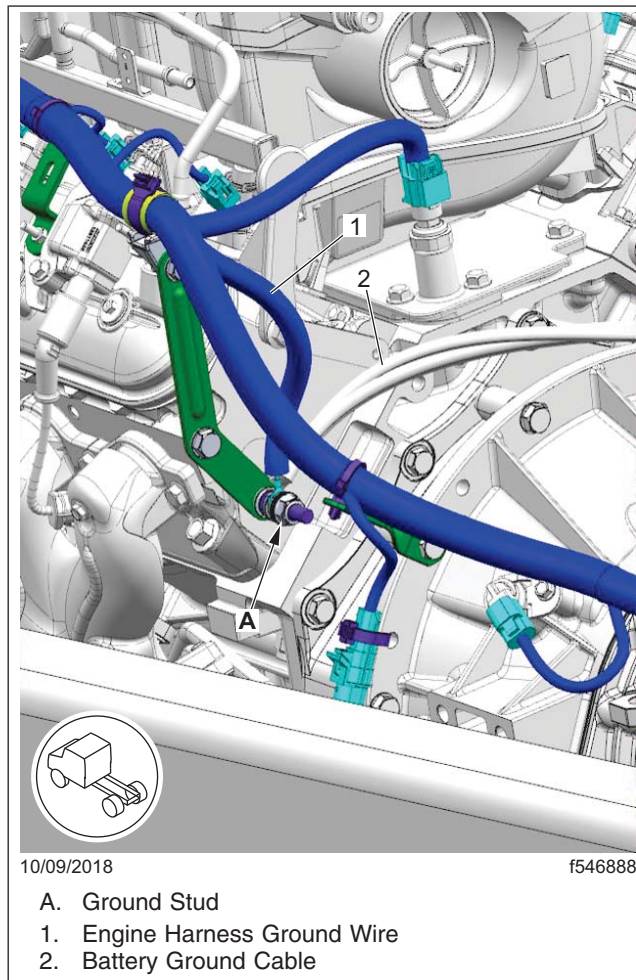

Fig. 5, Ground Cable Stud
14. Using two wrenches, hold the ground stud and remove the locknut that retains the engine ground cable. Discard the nut and washers. See **Fig. 5**.